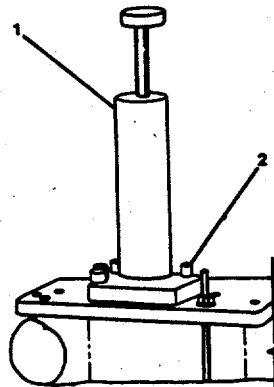

FIGURE 3-67. *Install the Boring Tool.*
- (2) Install the dial indicator (3) into the setting block. Put the setting block on the setting standard with the indicator tip on the diameter size of the bore to be cut. See Table 3-5. Adjust the dial indicator.
- (3) Install the tool bit into the boring bar. Do not completely tighten the setscrew. Install the tool bit adjusting knob into the boring bar. Hold the setting block and indicator against the boring bar so the indicator tip will be over the tool bit. Turn the adjusting knob clockwise to push the tool bit against the indicator tip. Adjust the tool bit until the indicator has the same reading as when adjusted on the setting standard. After the tool bit is correctly adjusted, tighten the setscrew and remove the adjusting knob.
- (4) Install the boring tool (1, FIGURE 3-67) into the guide bushing. The tool bit must go through the slot in the guide bushing. Do not hit the tool bit against the bushing.
- (5) Adjust the travel of the boring bar so the tool bit will go through the guide bushing but not touch the bushing in the pump body.
- (6) Fasten the boring tool to the pump body with cap screws (2). Rotate the shaft to make sure it will turn freely.